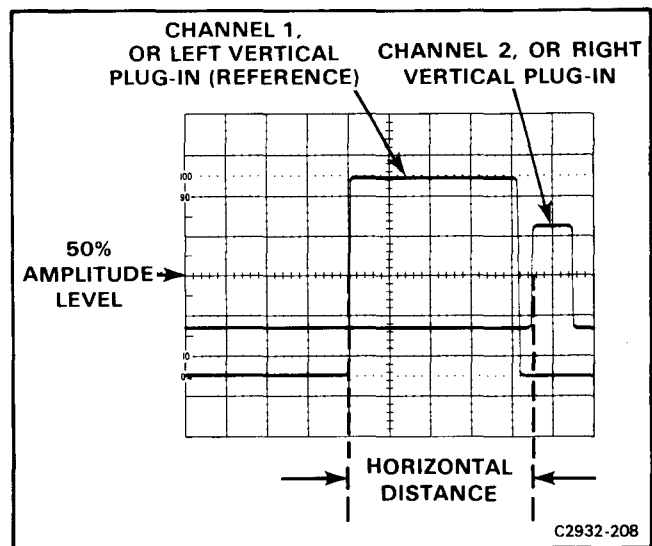

Figure 2-12. Measuring time difference between two pulses.
10. Measure the horizontal distance between the two measurement points (see Fig. 2-12).